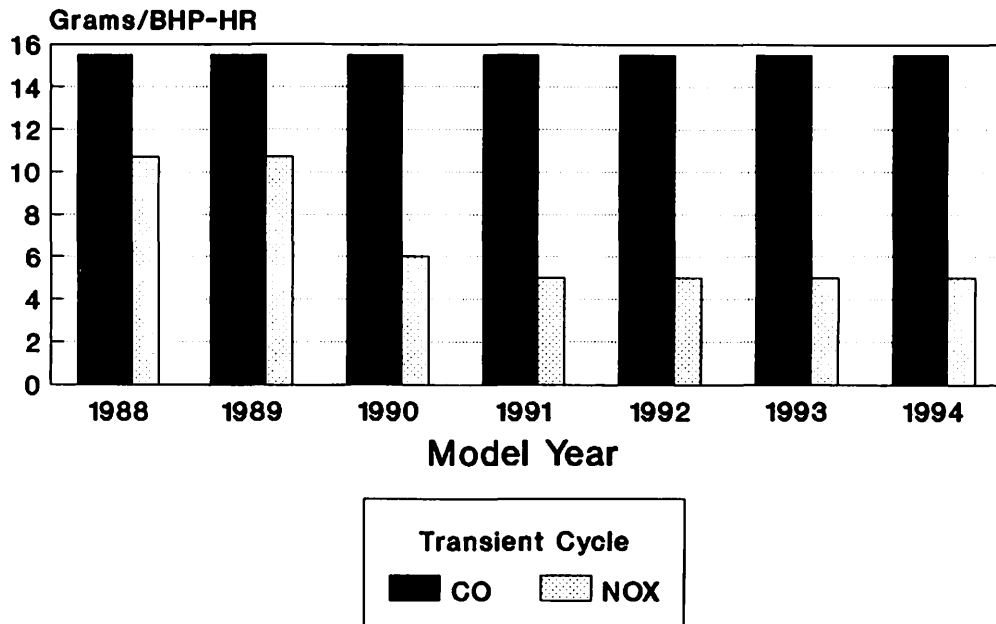

Figure 15
Figures 15 and 16 list the requirements that must be met under the new EPA standards. Regulated pollutants shown are carbon monoxide (CO), nitrogen oxides (NO_x), unburned hydrocarbons (HC) and particulates. Emissions are measured under the EPA transient cycle, which includes idle, part-load, and full load accelerations and decelerations. This cycle is based on New York and Los Angeles freeway and city driving cycles. It includes about 35% idling time.